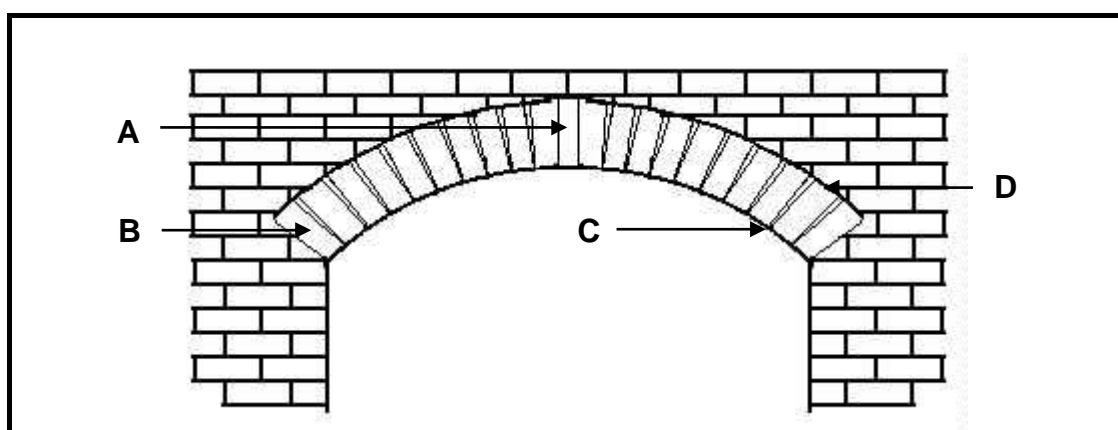

FIGURE 5.11
- 5.11 Answer the following questions on the arch structure in FIGURE 5.11.